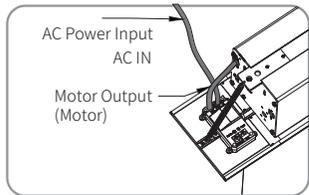

Figure 5
- Connect the screen's power. Plug the motor cable from the left side into the "Motor" port on the left end cover assembly. Connect the included power cord to the "ACIN" port. Ensure secure connections, then plug the power cord into an AC outlet (Figures 5–7).